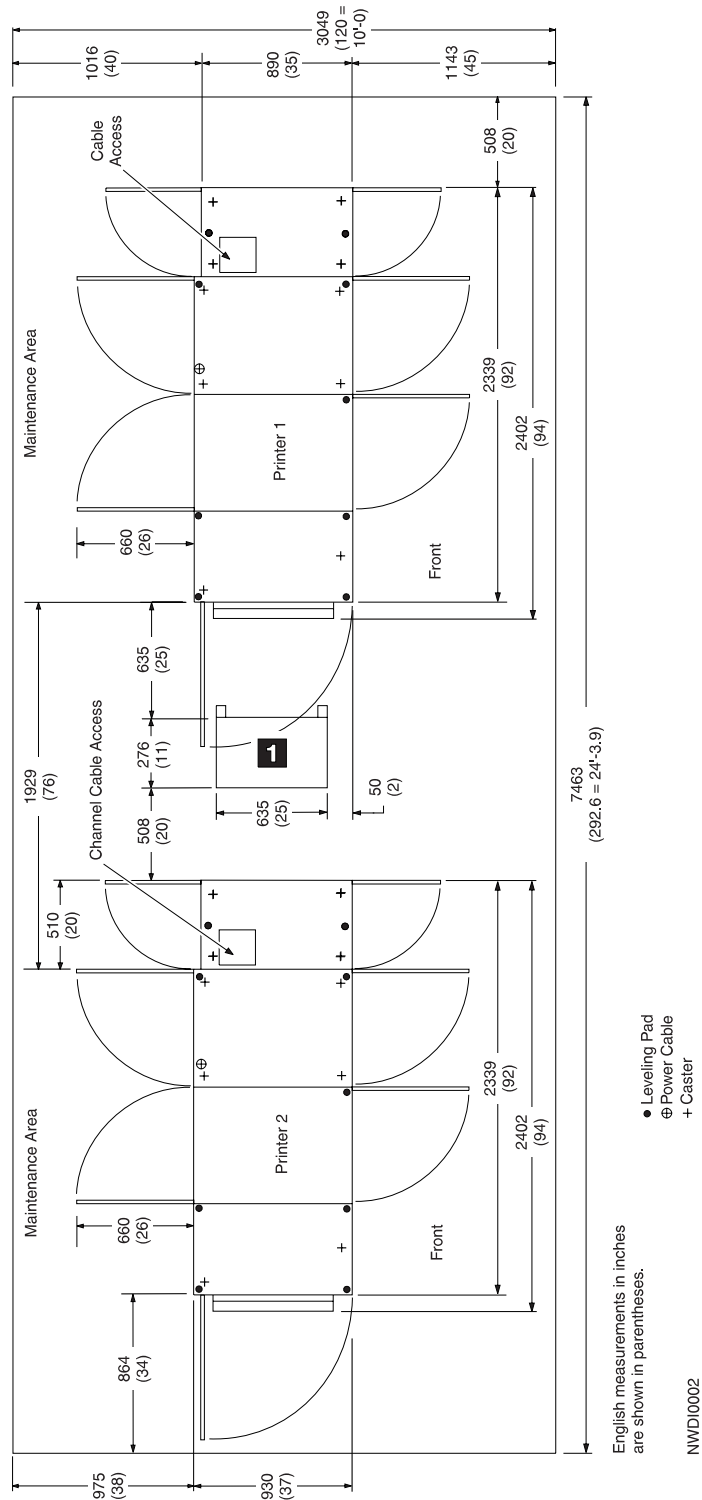
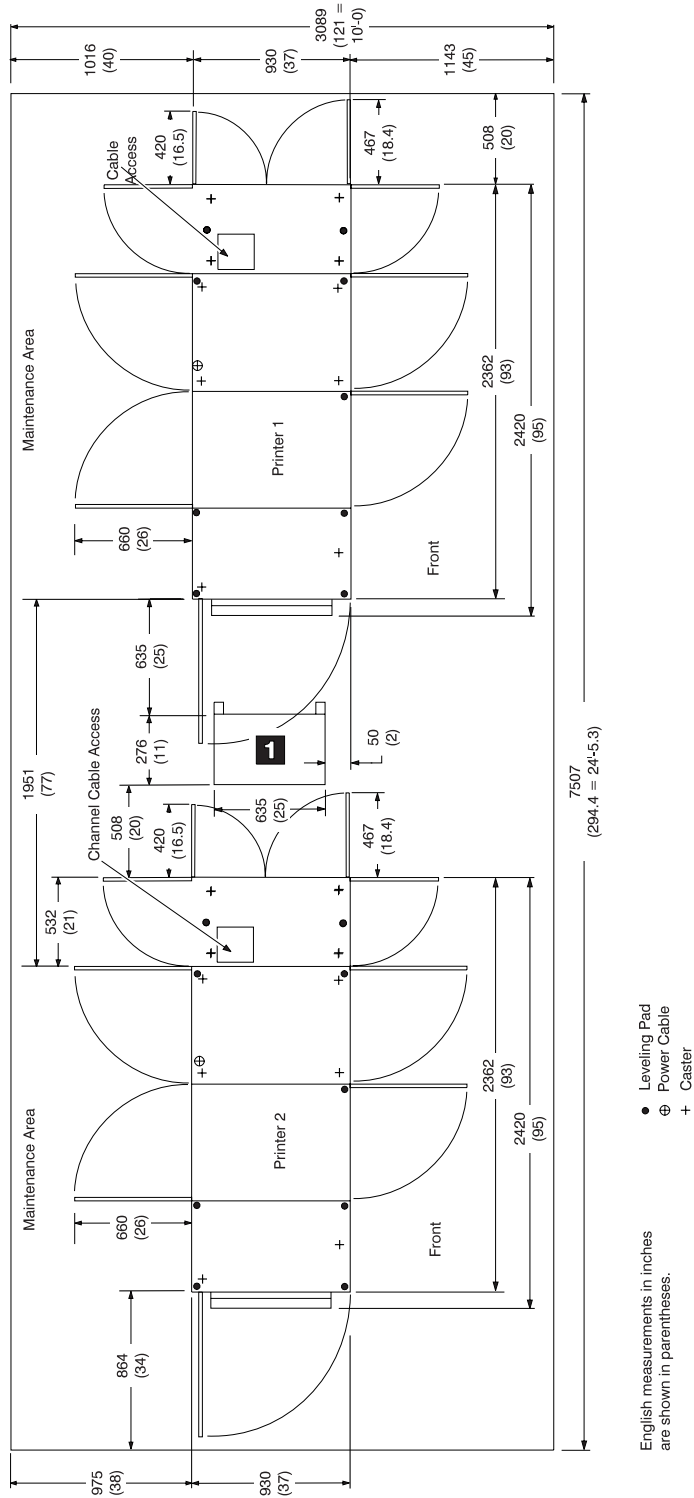

Figure 14. D01/D02 and DW1/DW2 Inline Configuration
Figure 16. DR1/DR2, ID1/ID2, IR1/IR2, and IR3/IR4 Inline Configuration
The dimensions of the Duplex Printing System and the Buffer/Flipper Unit **1**, the optimum separation of the units, the service clearance around the allowable configurations of these units, and the power cable and channel cable locations are shown in Figure 14 on page 66 and Figure 13 on page 64 for Models D01/D02 and DW1/DW2, in Figure 16 on page 68 and Figure 17 on page 69 for Models DR1/DR2, ID1/ID2, and IR1/IR2, and Figure 18 on page 70 and Figure 19 on page 71 for Models ID3/ID4.
- Ensure that approved electrical outlets with correct power are reserved for the printer, and that they can be reached with the power cables. The approximate locations of the printer power cable and the channel cable areas are shown in Figure 12 on page 63 for simplex printers and in Figure 14 on page 66 for duplex configurations.